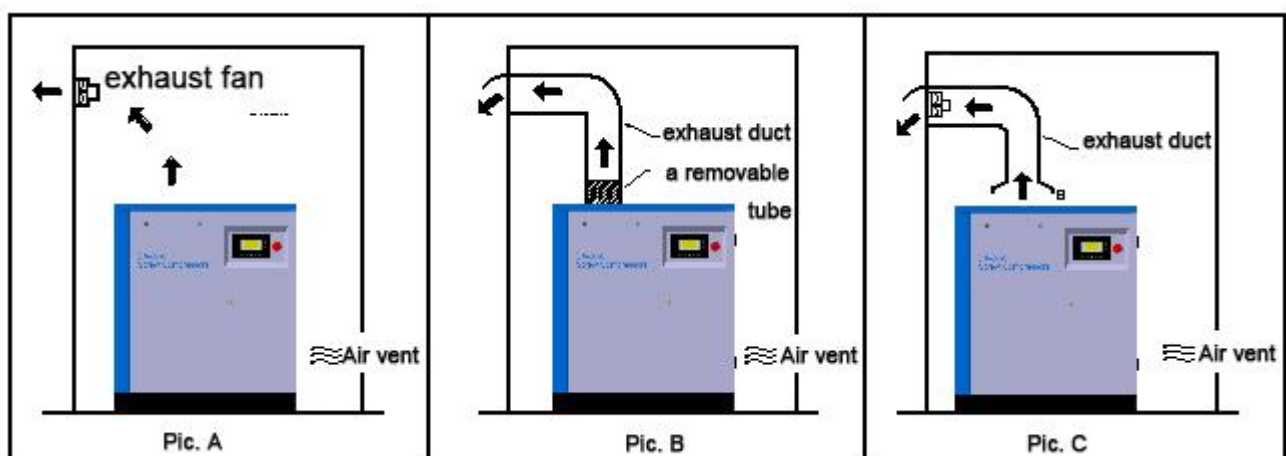

Fig 3.1
- (4) The ventilating fans around or over the air compressor shall set apart at least 900 mm maintenance space (see Fig. 3.1).
- (5) The altitude shall be less than 1000 m.
- (6) The relative humidity shall be less than 95%.
No matter the air compressor is installed indoors or outdoors, good ventilation shall be ensured to avoid heat short cycle or interaction effect from heat extraction of the machines, so the locations of vent pipes, ventilating fans and compressors must be considered (there are typically three ways, see Fig. 3.1).